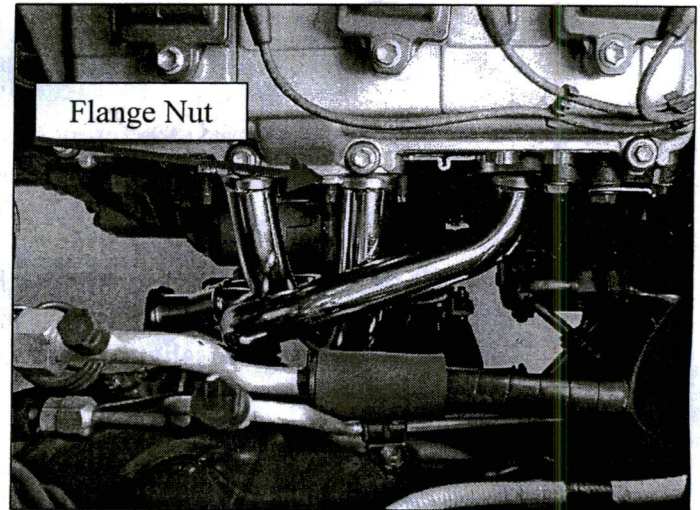

Figure 13
2. Beginning with the passenger side, carefully slide the exhaust header from underneath the vehicle, and mount the flanges to the engine using 6 OE exhaust flange-to-engine nuts. **LOOSELY HAND-TIGHTEN** the 6 header-to-engine nuts (Figure 13). Make sure the small gaskets are in place.